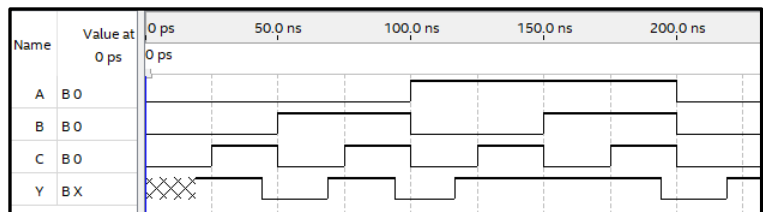

Figure 11: Output of Timing Simulation
- Zoom in on the window. You should see something like Figure 11.